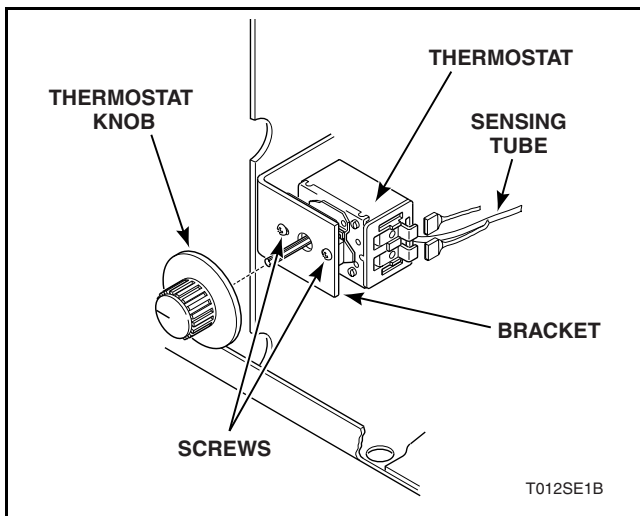

Figure 10
- Pull off thermostat knob. Refer to *Figure 10*.